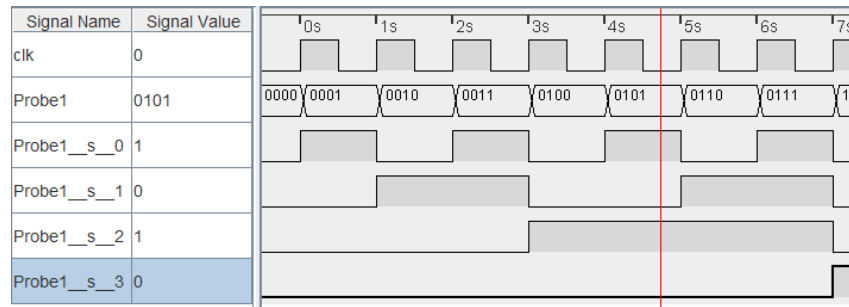

Figure 6.7: Timing Diagram for Up Counter
*Logisim-Evolution* can generate a timing diagram, called a *chronogram*, for a sequential circuit. That is a representation of the various signals in a circuit and how those signals change over time. Figure 6.7 is the timing diagram for an Up counter.
At the top of Figure 6.7 is a scale that indicates the number of seconds that the counter has been operating. The first trace is the input `clk` signal. The clock goes high at the start of each second and then goes low at the half-second mark. Under the clock is the “Probe1” signal. Because that is a four-bit number *Logisim-Evolution* displays the number, but under that number is a breakout of the four bits that make up that number. Thus, at time zero “Probe1” is 0001 and “Probe1\_s\_0” (that stands for “Probe 1, Signal 0”) is high while the other bits are low. The *Logisim-Evolution* chronogram includes a cursor indicated by a red line (found just before the five second tick in Figure 6.7) that can be placed anywhere along the diagram. The cursor sets the values of each signal in the area on the left edge of the diagram, so the cursor in Figure 6.7 is pointing to a spot where the `clk` is low, `Probe1` is at 0101, and so forth.
3. Set SIMULATE -> TICK FREQUENCY to 4 Hertz. This will simulate a clock that ticks once per second, as in Figure 6.7. While the